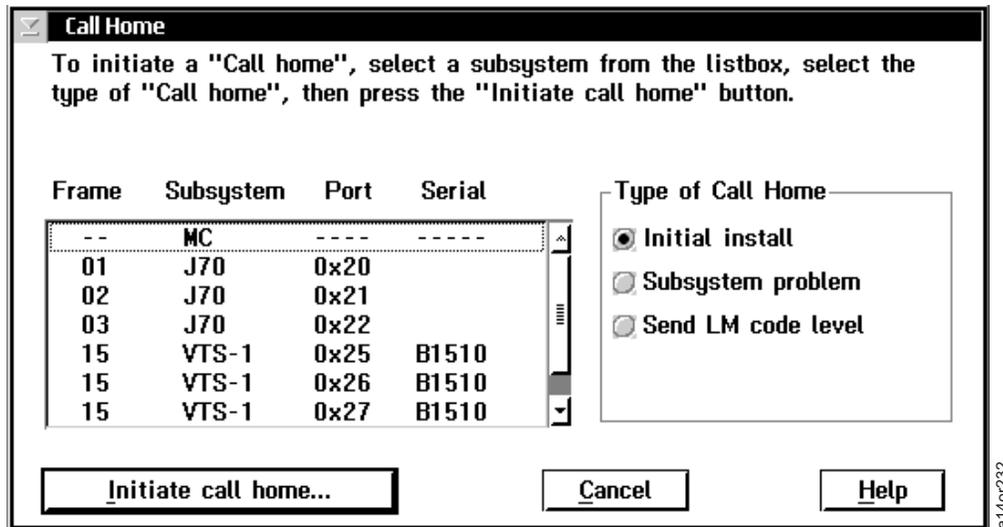

Figure 140. Call Home Dialog Box
1. To test call home through the TSSC, use the 3494 ATL or the 3953 menu commands **Commands > Call Home** to view the Call Home Dialog box (see Figure 140).